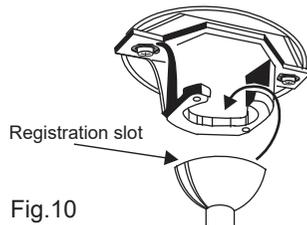

Fig.10
Step 9 Place the down rod ball into the hanger bracket socket.This will allow you to make the electrical connections.(Fig.10)